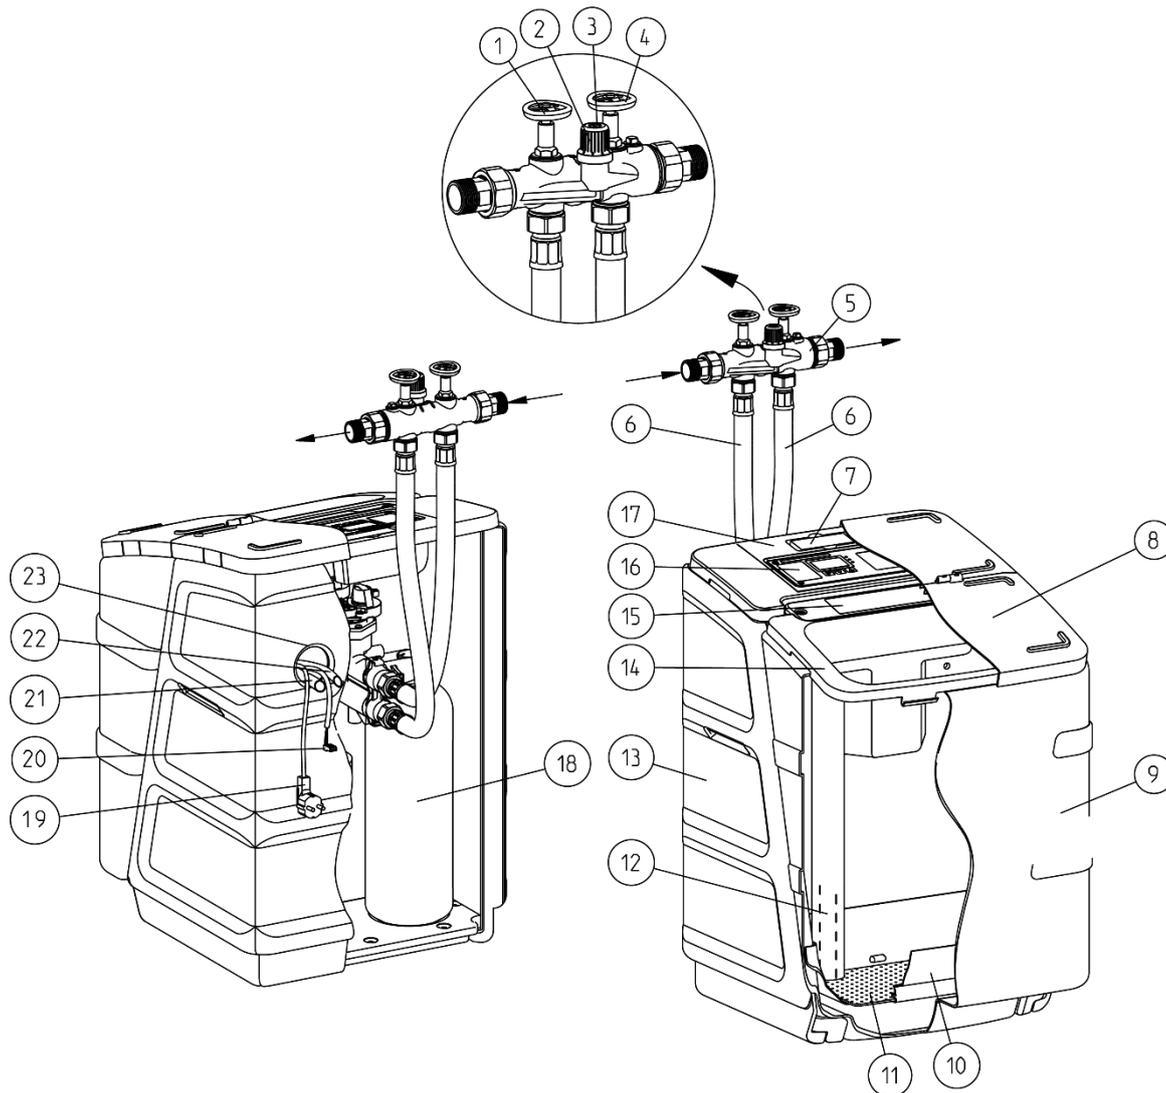

Fig. C-2: Components of the Weichwassermeister GSX
We can process your inquiries and orders more quickly if you specify the data shown on the type designation plate (Fig. C-2, item 15) of your system when contacting Grünbeck. Therefore, please fill in the table below, in order to have the required data handy at all times.